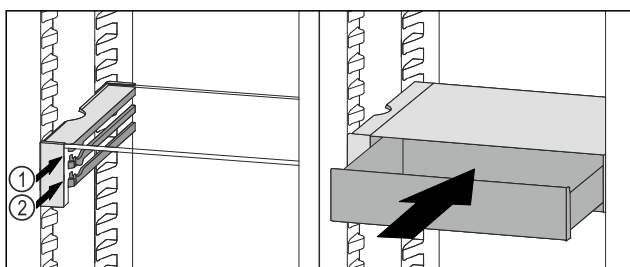

Fig. 106
- Place the VarioSafe drawer behind the stoppers on desired rib Fig. 106 (1) or Fig. 106 (2).